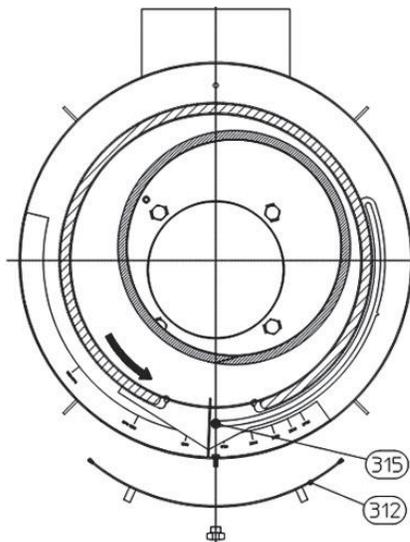

FIGURE-4.13
- Remove the rear panel of the silencer POS 312 (see FIGURE-4.13).
- Unloosen the locking screw of the adjustable baffle POS 315 (see FIGURE-4.13).